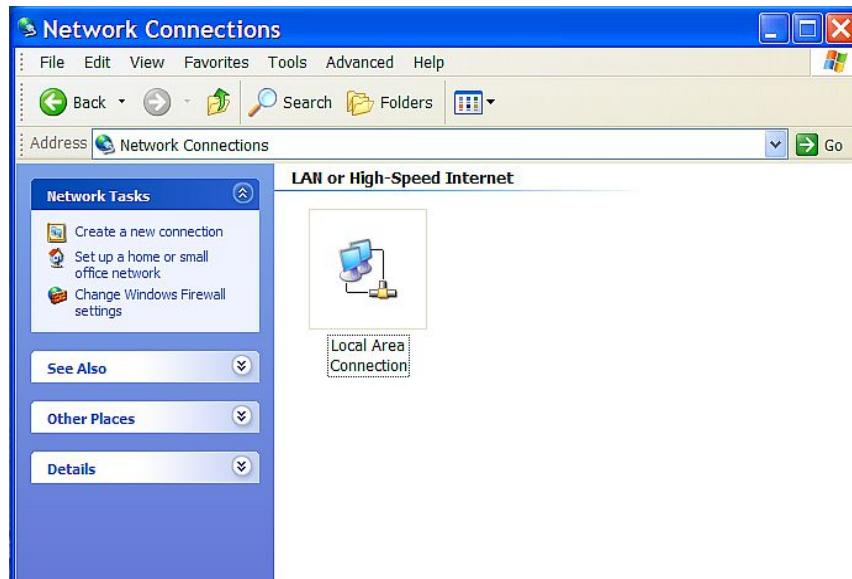

Figure 2.3c- Network Connection
3. Right click on the icon labeled *Local Area Connection*. In the menu that follows, select the option at the bottom of the menu labeled *Properties*. The Local Area Connection Properties window will appear (Figure 2.3c).